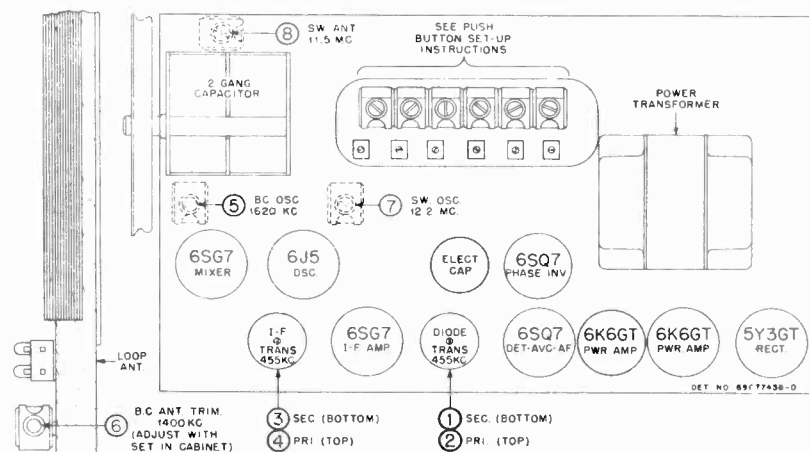

FIGURE 2. TUBE & TRIMMER LOCATIONS
Refer to Figure 2 for location of adjustment trimmers and cores. Connect a low range output meter across speaker voice coil. Volume control should be set at maximum for all operations.
7. The tuner adjustment screws are accessible from the back of the radio. (See Figure 2).